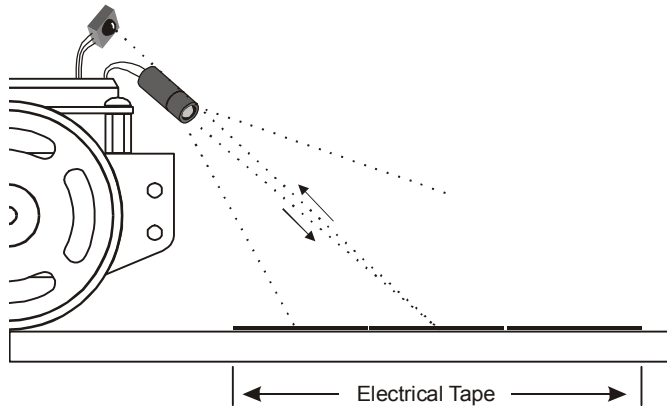

**Figure 8-9**
- ✓ Start by placing your Boe-Bot so that it is looking directly at the white background of your poster board as shown in Figure 8-9.